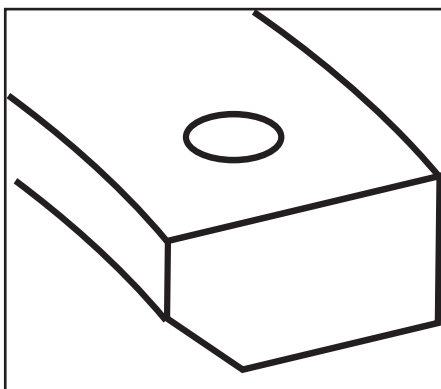

Figure 1
- e. Install second compression ring - Second compression ring has a darker, charcoal gray finish and slight bevel along inner surface. This ring has a dot. **See Figure 1.** Install in second or middle groove with dot up. Second compression ring gap should be 135° or approximately 1½" to right of oil expander gap.